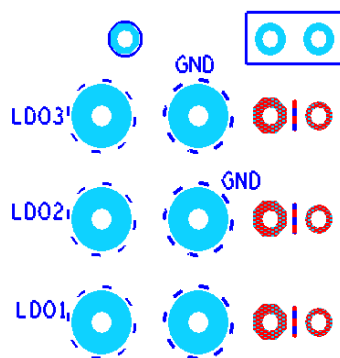

Figure 10. Locations for Measurement of LDO Regulator Output Voltages
5. **Figure 10** shows locations on the PCB where the LDO regulator output voltages can be measured accurately. For each LDO regulator, there is a pair of pads with holes to which wires, pins, or connectors can be soldered, or an oscilloscope probe can be connected. The larger of each pair of pads is the positive; the smaller pad is ground.